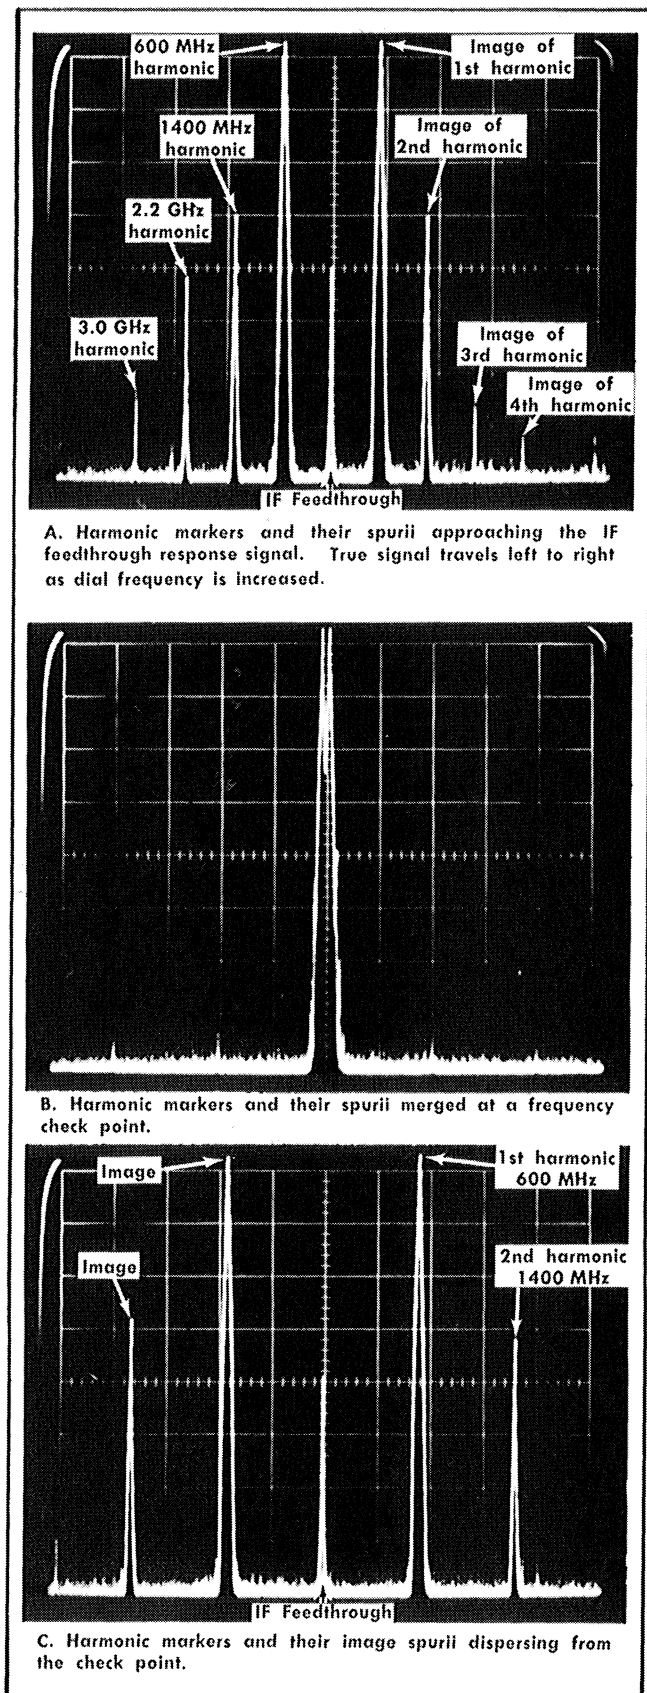

Fig. 6-46. Harmonic frequency markers used to check dial accuracy.
- 1) Tune the RF CENTER FREQUENCY through the band. Observe the 100 MHz harmonics and their image spurs as they travel across the screen towards the center and merge with the IF feedthrough response, as the dial crosses a frequency check point. The harmonics then separate and move off the screen. See Fig. 6-46. Maximum error between the dial readings and frequency check points must not exceed $\pm (2 \text{ MHz} + 1\% \text{ of the dial reading})$.